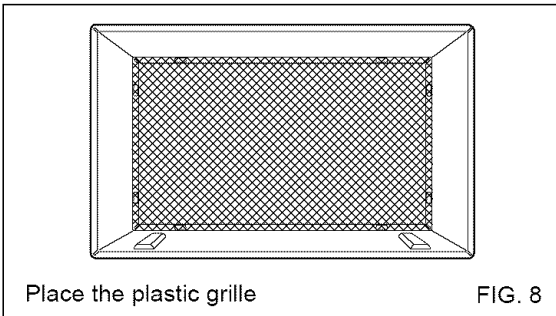

FIG. 8
- 6 Remove the backing from the support blocks and attach them to the inside of the wall sleeve as shown FIG 8. Slide the baffle into slots of the support blocks.